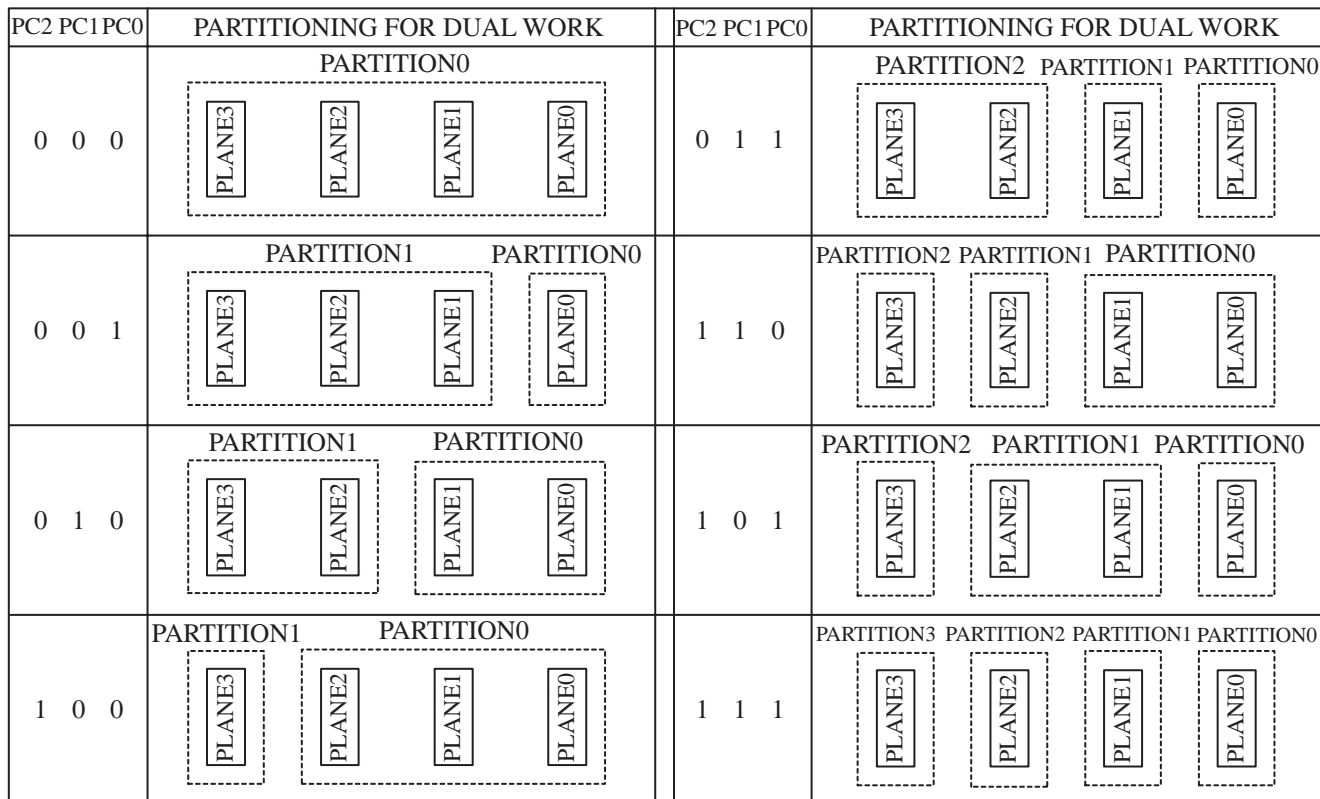

Figure 4. Partition Configuration
<p>PCR.15-11 = RESERVED FOR FUTURE ENHANCEMENTS (R)</p> <p>PCR.10-8 = PARTITION CONFIGURATION (PC2-0)</p> <p>000 = No partitioning. Dual Work is not allowed.</p> <p>001 = Plane1-3 are merged into one partition. (default in Bank 1 selected by BE1#=VIL)</p> <p>010 = Plane 0-1 and Plane2-3 are merged into one partition respectively.</p> <p>100 = Plane 0-2 are merged into one partition. (default in Bank 0 selected by BE0#=VIL)</p> <p>011 = Plane 2-3 are merged into one partition. There are three partitions in this configuration. Dual work operation is available between any two partitions.</p> <p>110 = Plane 0-1 are merged into one partition. There are three partitions in this configuration. Dual work operation is available between any two partitions.</p> <p>101 = Plane 1-2 are merged into one partition. There are three partitions in this configuration. Dual work operation is available between any two partitions.</p>	<p>111 = There are four partitions in this configuration. Each plane corresponds to each partition respectively. Dual work operation is available between any two partitions.</p> <p>PCR.7-0 = RESERVED FOR FUTURE ENHANCEMENTS (R)</p> <p>NOTES:</p> <p>After power-up or device reset, PCR10-8 (PC2-0) is set to "001" in Bank 1 and "100" in Bank 0.</p> <p>See Figure 4 for the detail on partition configuration.</p> <p>PCR.15-11 and PCR.7-0 are reserved for future use and should be masked out when checking the partition configuration register.</p>